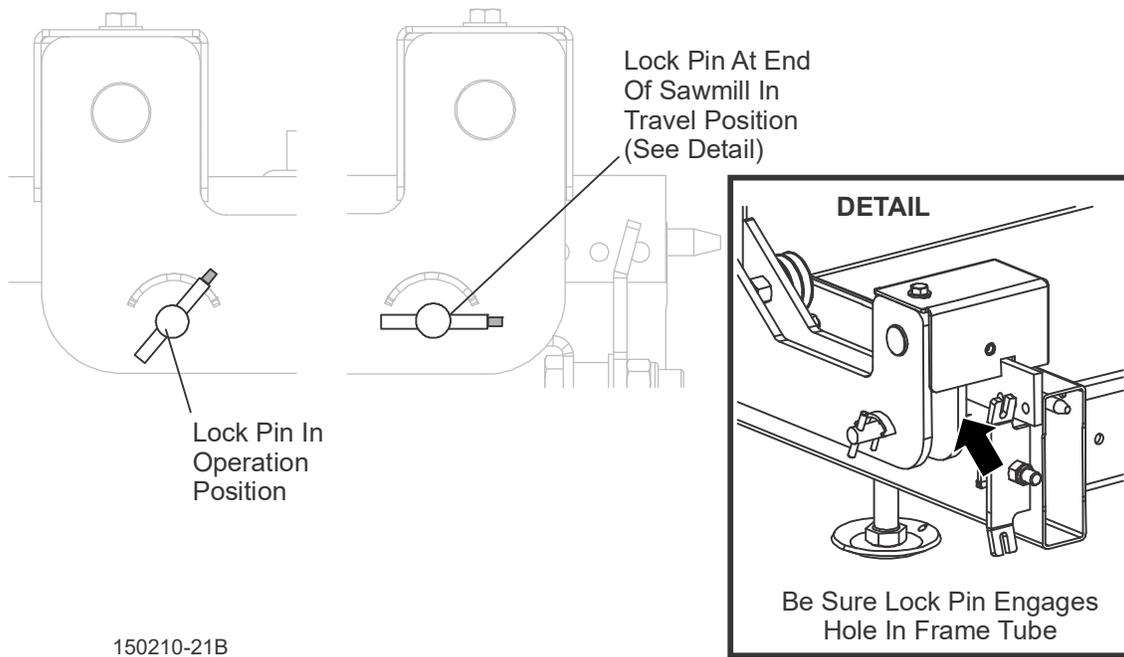

FIG. 5-11
1. Remove the leg assemblies or adjust them above the bottom of the bed frame. See FIGs. 5-11 and 5-12. See Section 8.5 for a detailed description of carriage lock pin operation.